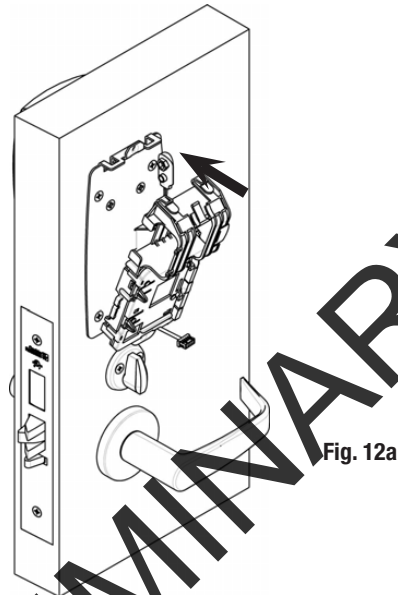

Fig. 12a
- b. Tilt the module upward and secure the top two tabs into the mounting plate (Fig. 12a).